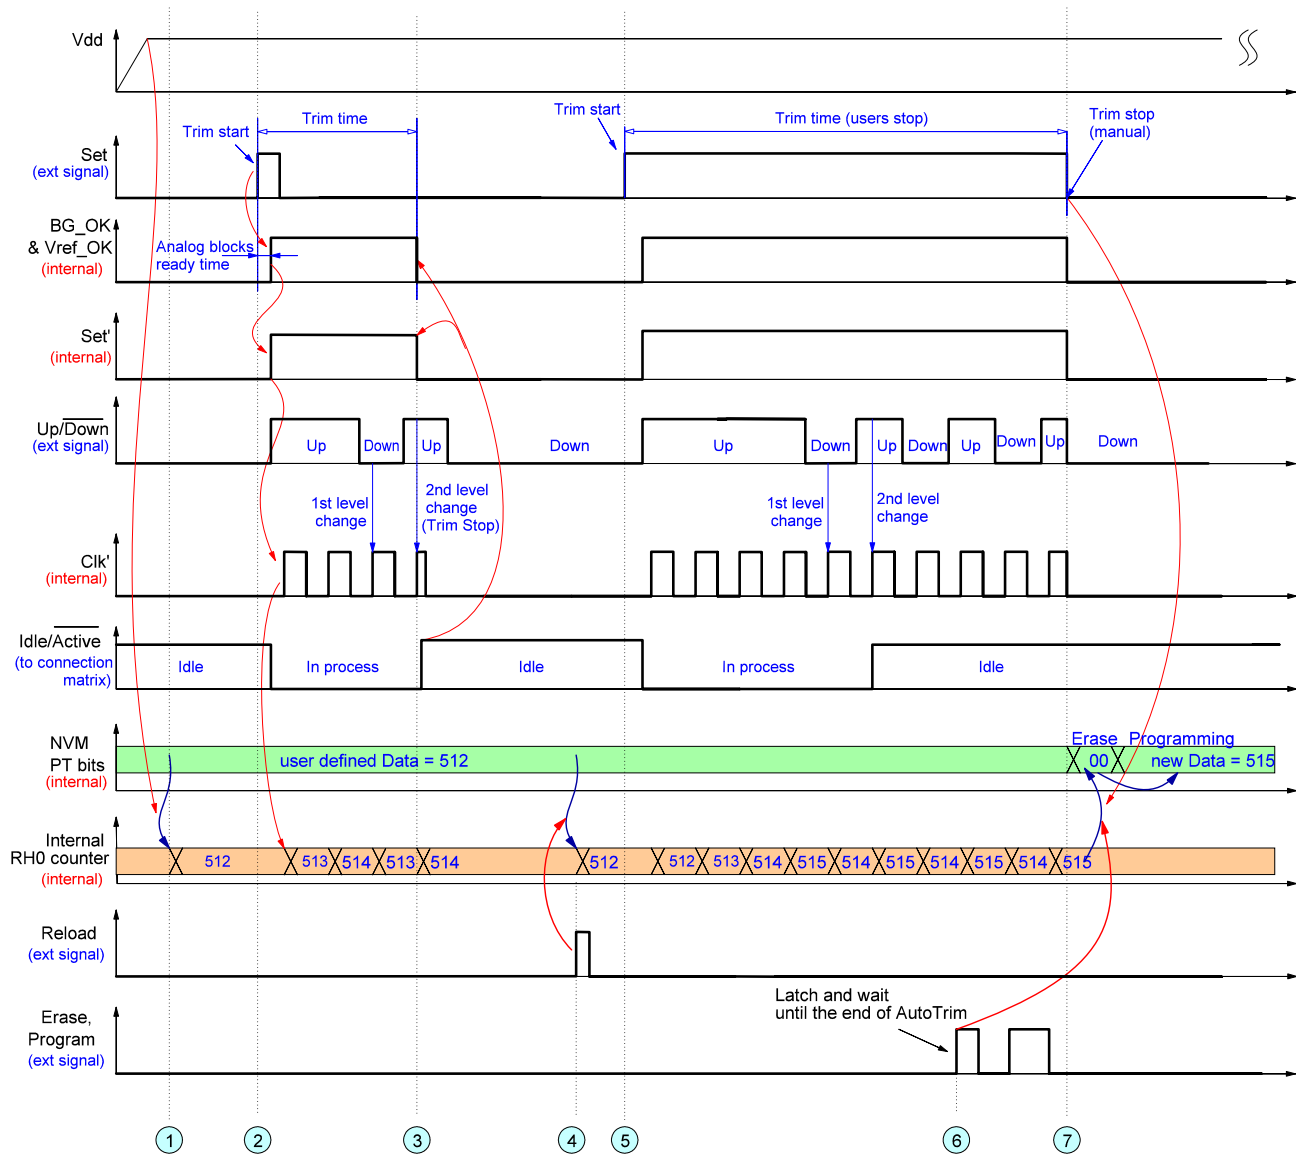
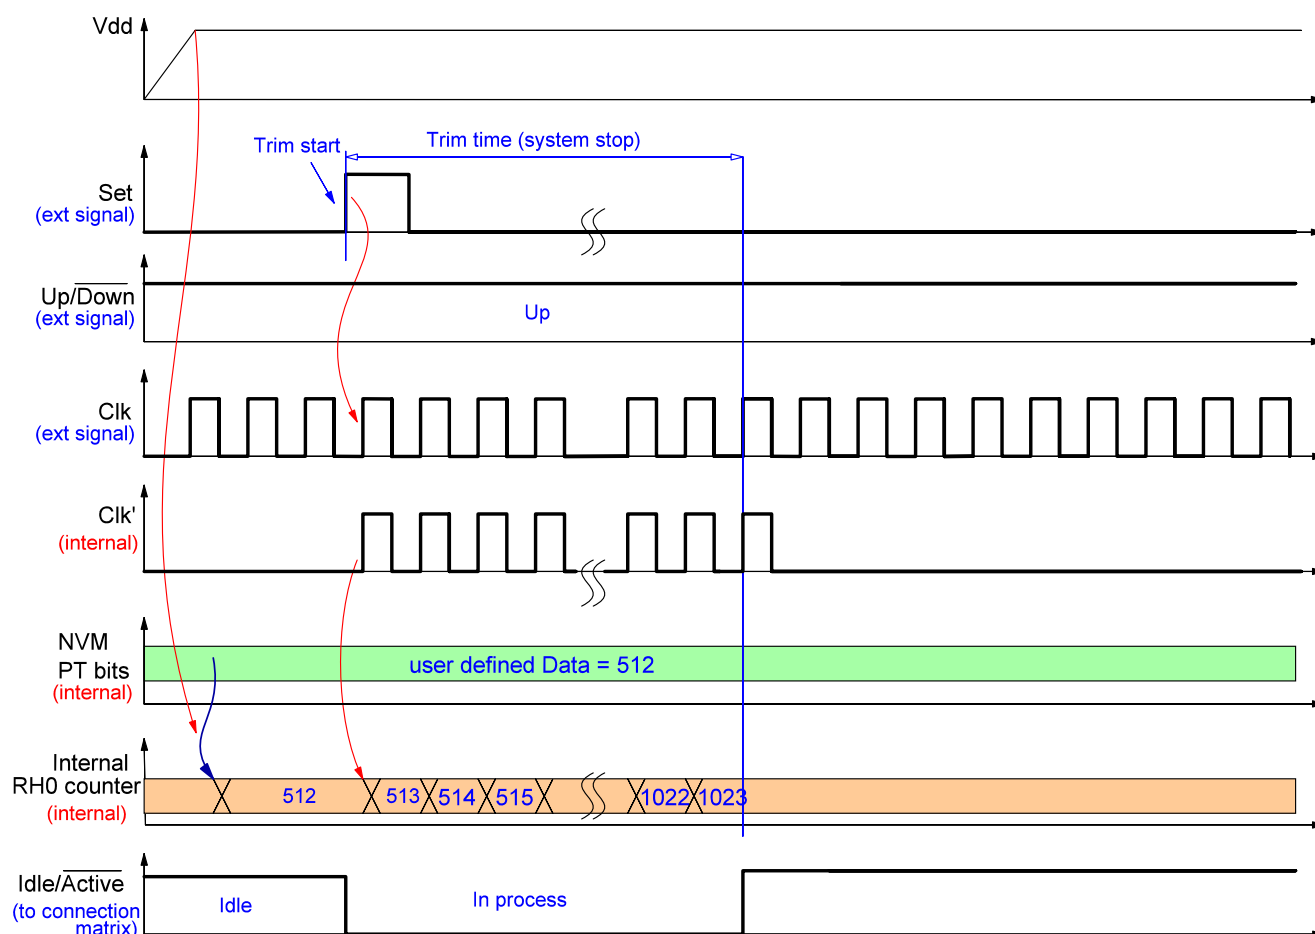
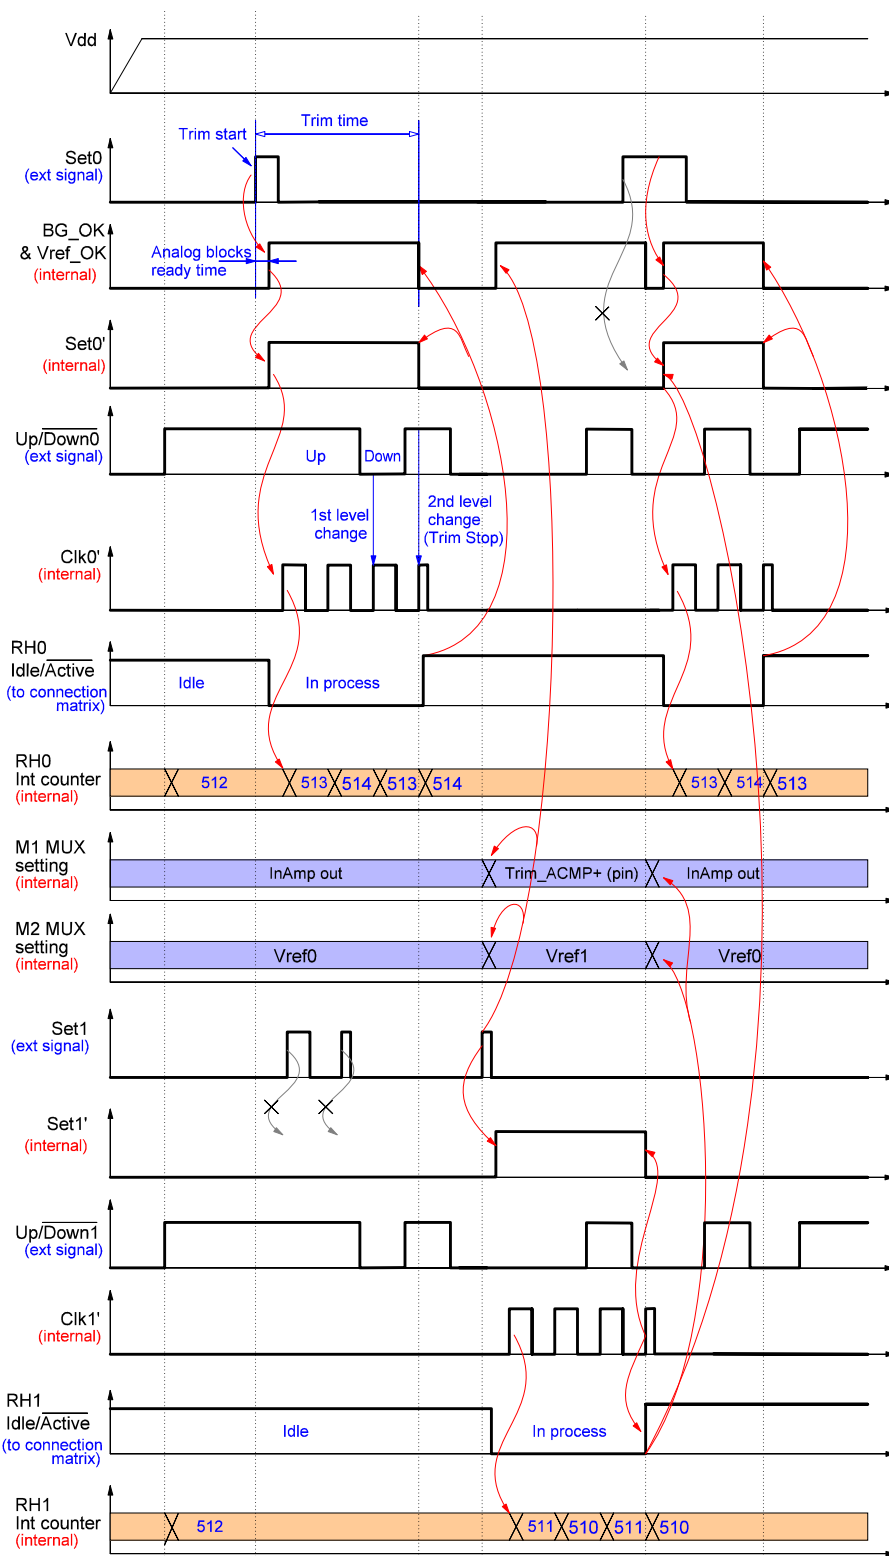

Figure 107: Example of Auto-Trim Process for a Single Rheostat
Figure 108: Example of Auto-Trim Process with External Clock Signal
Figure 109: Example of Auto-Trim Process for Two Rheostats
- 1) 2nd time change on Up/Down input at the moment of rising edge on Clock input (see Figure 107).
- 3) the value of rheostat reaches its minimum (0).Stop conditions result in a change of the Idle/Active signal, which resets the internal Auto-Trim logic.
The detailed flow of Auto-Trim process is shown in Figure 107, Figure 108, Figure 109.
The key events of the Auto-Trim process are the following (see Figure 107):
If the Set input signal is shorter than the trim time, the Auto-Trim process stops automatically after a stop condition occurs (event 3, Figure 107). However, if a stop condition comes and High logic level holds on the Set input, the rheostat value will be switched near the set point until a Low level on the Set input occurs (event 7, Figure 107). Note that the Idle/Active signal changes its level to High (Auto-Trim is done) even if the user keeps a High logic level at the Set input.
Figure 108 shows a similar Auto-Trim example. The only difference is that the user defined clock source as “External clock” from connection matrix. The clock pulses are present at the Clock input all the time, but have effect (rheostat value changes) during Trim time only. The stop condition for this case is the following: PT block reaches boundary value of 1023 and the logic level at change Set input is Low.
Figure 109 shows Auto-Trim process flow for two rheostats.